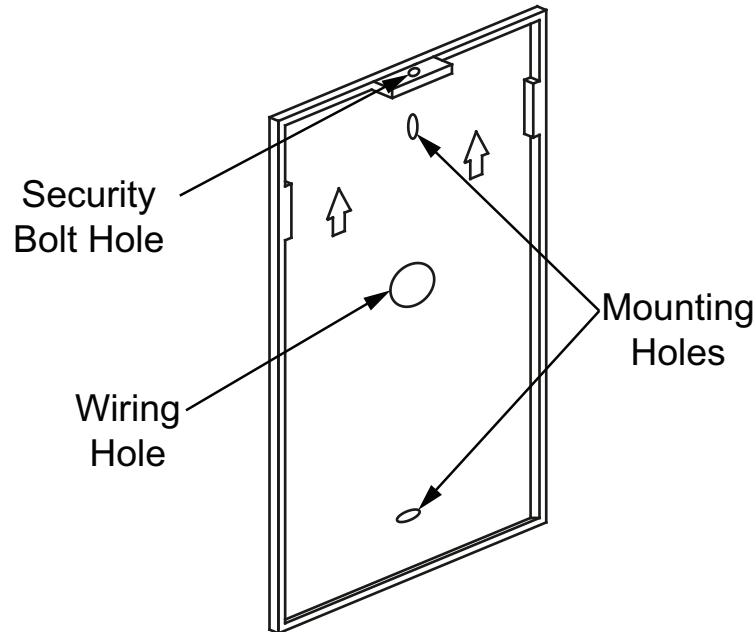

Figure 29 Pull Station mounting plate
1. If you are connecting an input to the Pull Station, run the wires for the input to the single gang PVC box and then through the wiring hole on the mounting plate (see Figure 29).
2. Attach the mounting plate to the single gang PVC box using two screws (see Figure 29).